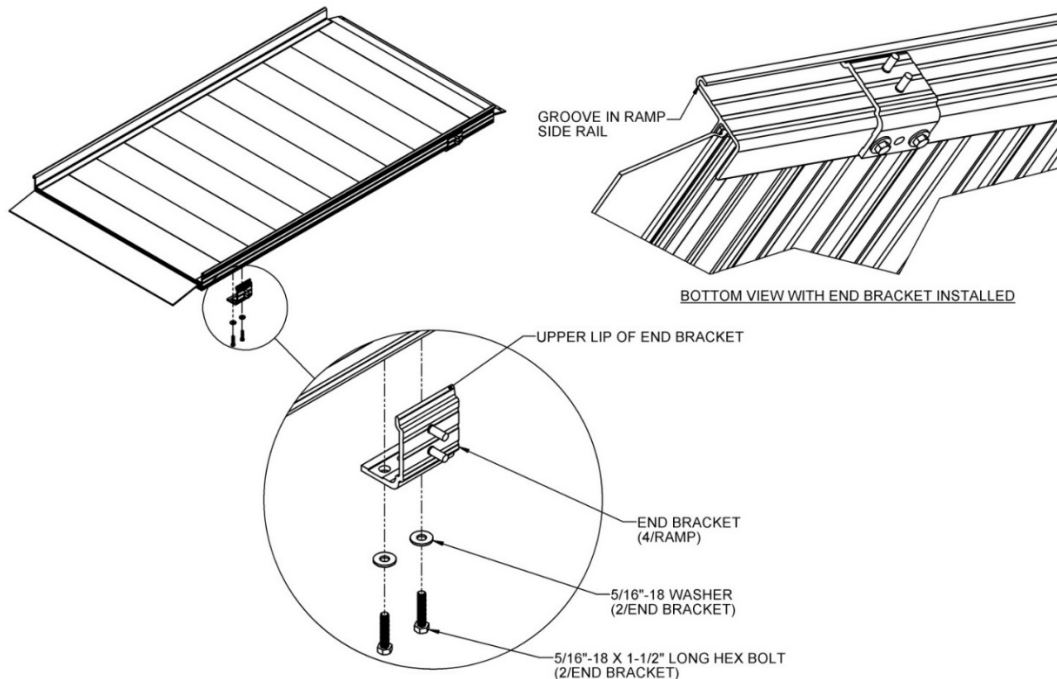

FIG 2
- 3.2. Locate the two ramp handrail end bracket pairs and install one end bracket at each outside corner of the ramp using two hex bolts and washers into the two threaded inserts at the end of the ramp. As shown in FIG 2, the upper lip of the end bracket should extend into the groove under the ramp side rail.